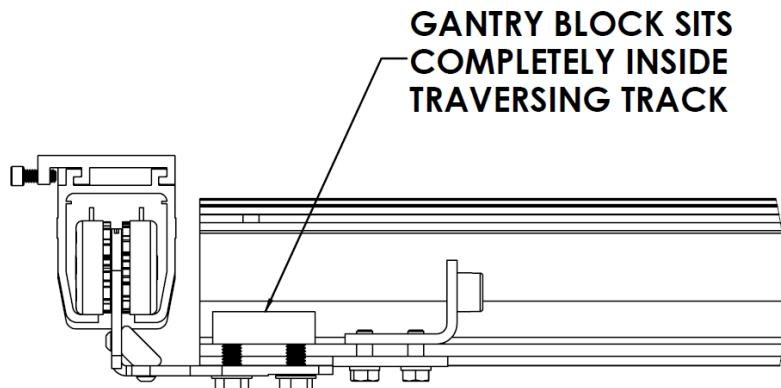

Figure 46: **Gantry Blocks Inside Traversing Track**
2. Measure and cut the traversing track so that, on each end, the above mount gantry mounting blocks sit completely inside the track once installed (Figure 46).